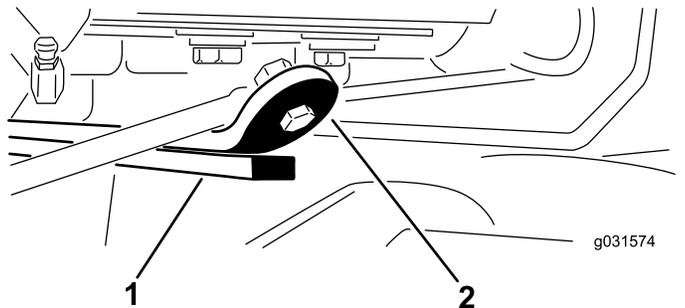

Figure 10
3. Start the engine, raise the cutting units, and ensure that the clearance between the wear strap on the top of the rear-cutting-unit wear bar and the bumper strap is 0.51 to 2.54 mm (0.02 to 0.10 inch) as shown in Figure 10.